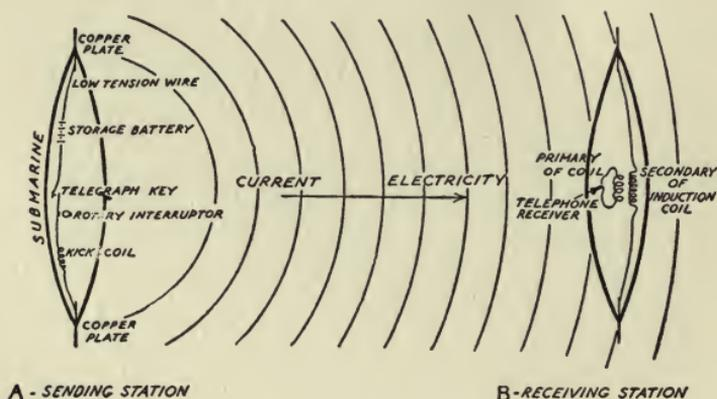

FIG. 59. THE UNDERWATER "WIRELESS."
The receiving apparatus is made up of (a) a *telephone induction coil*, and (b) a pair of *head telephone receivers*. All of this is shown in Fig. 59.
*How the System Works.*—The instruments of the sending apparatus are connected up as shown in Fig. 59. Now when a message is to be sent from one submarine to another, the operator sets the rotary interruptor, which is run by an electric motor, to spinning, and this makes and breaks the current several hundred times a minute as long as he holds the key down which closes the circuit.
The result is that each dot and dash he makes is formed of a large number of separate currents, and as these flow through the reactance coil, it gives each one a little kick and sends it out into the water through the copper plates; the currents then spread out between and from the plates in closed lines which extend to very considerable distances, as shown in Fig. 59.